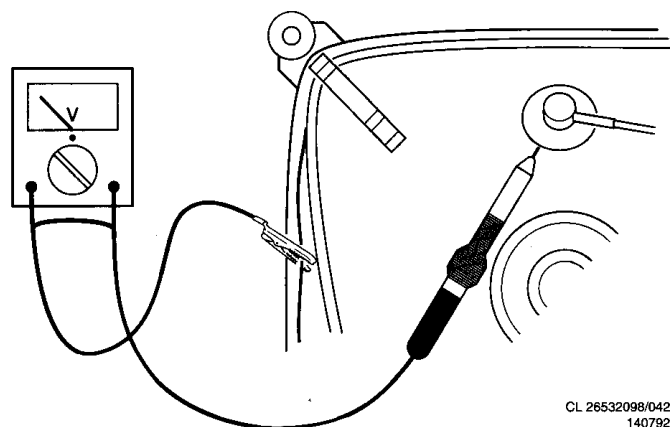

Figure 3-2
2. In order to prevent damage to ICs and transistors, all high-voltage flashovers must be avoided. In order to prevent damage to the picture tube, the method shown in Fig. 3.2 should be used to discharge the picture tube. Use a high-voltage probe and a multimeter (position DC-V). Discharge until the meter reading is 0V (after approx. 30s).